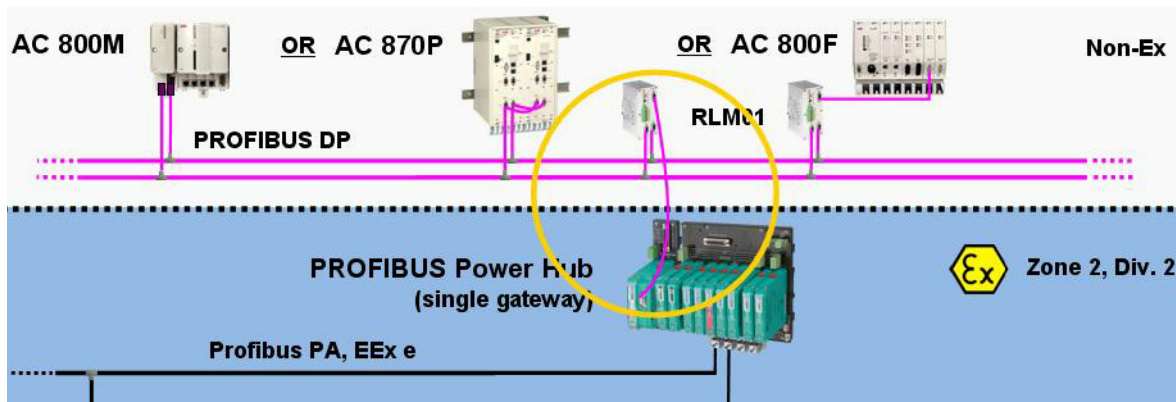

Figure 17. PROFIBUS Power Hub with line redundant connection
- RLM01, connected to a non-redundant PROFIBUS Power Hub gateway module as shown in Figure 17. This will allow to use line redundancy, in case the PROFIBUS Power Hub needs to be operated without bus address.